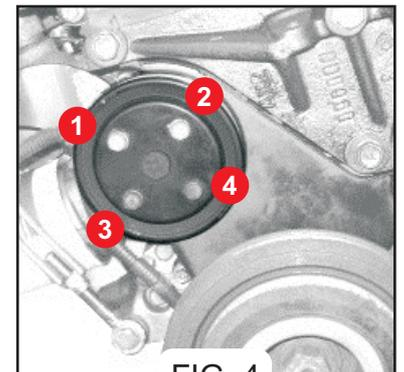

FIG. 4
- ① The next step is to drain the coolant circuit and loosen the water pump pulley bolts [FIG. 4].
- ③ Make the same to remove the alternator and AC compressor belts. Then, dismount the auxiliary belts [FIG. 1] and remove the water pump pulley [FIG. 4].
- ⑤ Fit timing belt covers and mount the water pump pulley [FIG. 4].
- ⑥ Fit the water pump belt and tighten tension adjusting plate bolt until the belt tension is correct. Then tighten the power steering pump bolts.
- ⑦ Mount the others auxiliary belts and proceed with the rest of the assembly.